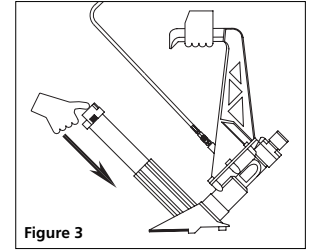

Figure 3
3. Push and lock the magazine door back in place (See figure 3).